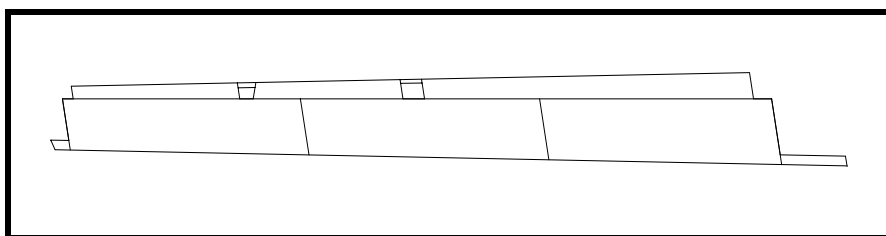

Figure 29
- ❑ Fit and install the lower trailing edge skin between Sta. 10 and 14. See Figure 29.